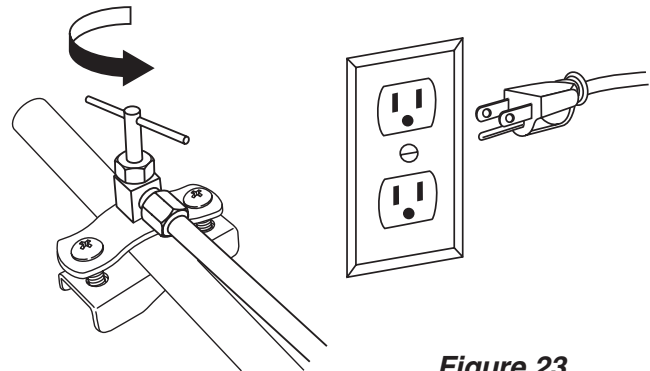

Figure 23
3. Open the shut-off valve for the water supply and check the entire water system for leaks. Before the appliance is used for the first time a licensed plumber should bleed air from the system (**Figure 23**).
4. Insert the electrical plug for the unit into the electrical outlet (**Figure 23**).